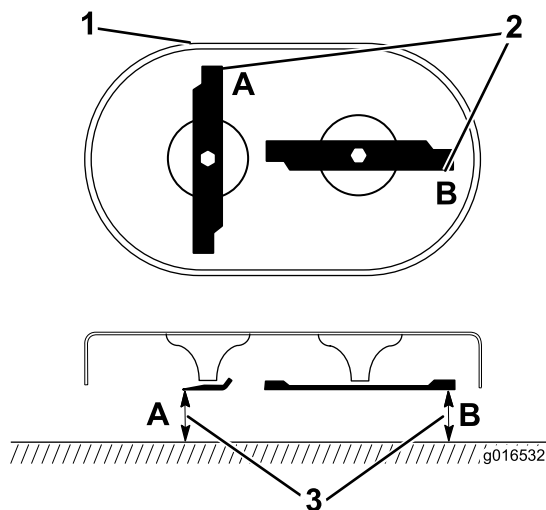

Figure 43
1. Rotate the blades until they are positioned as shown in Figure 43.
2. Measure from a level surface to the cutting edges at locations **A** and **B**, (Figure 43), and record both dimensions.